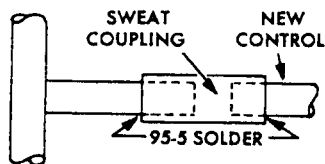

Fig. 3
- C. If present installation uses more than 36" capillary, use additional length of $\frac{1}{4}$ " tubing, attached to system as shown (Fig. 3) to a point near control and attach control as shown in Fig. 3 or use flare nuts and flare union.